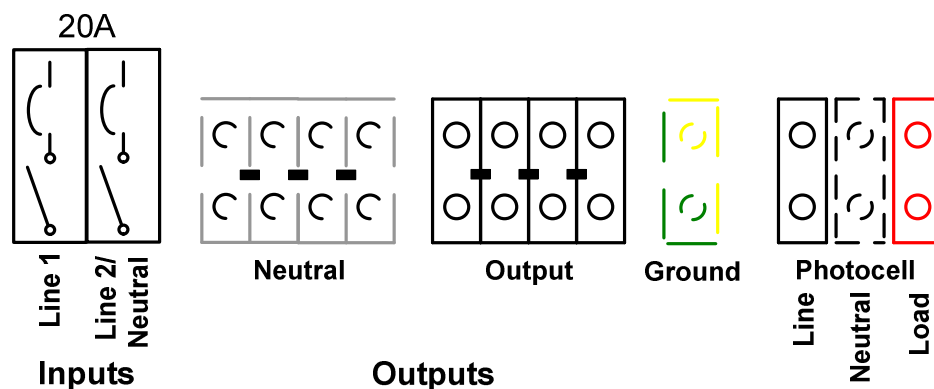

Figure 1: Customer Interface Wiring Diagram
- b. Connections from the AC source power to the controller inputs are shown on the left side of the Wiring Diagram in Figure 1 and listed in Table 1 below.
- c. Connection from the Controller AC outputs to the Load are shown on the right side of the Wiring Diagram in Figure 1 and listed in Table 1.